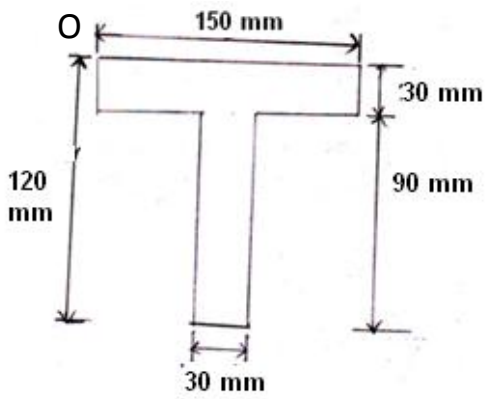

Fig. 13
Q.15	(a) State Pappus – Guldinus first and second theorem (b) Locate the centroid of the T-section shown in fig. 13 , about point 'O'.
Q.16	(a) Explain Polar Moment of Inertia (b) Find moment of inertia of T-section shown in fig. 13 about in both the centroidal axes.